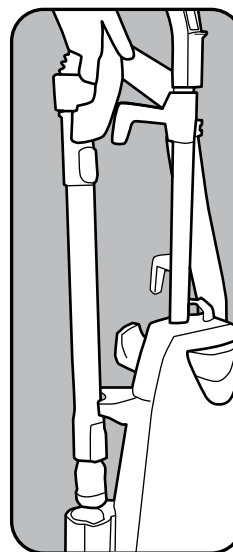

Fig. 4
1. To use the cleaning tools, lift the hose handle straight up from the vacuum (Fig. 4).